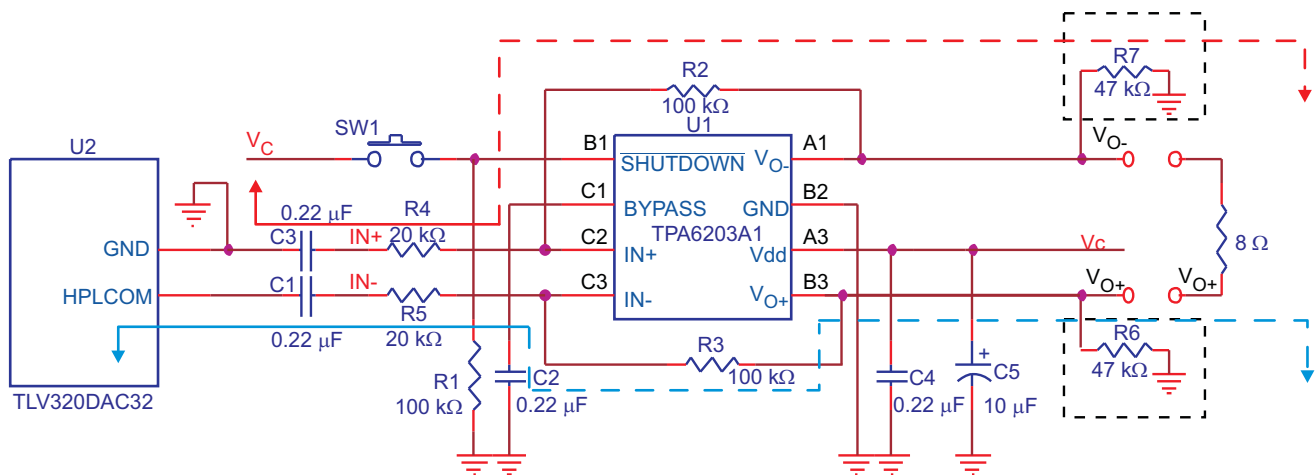

Figure 6. Additional Discharge Paths for Bias Voltage
Adding resistors R6 and R7 shown in Figure 6 provides an additional path to discharge the input capacitors. This shortens the discharge time to about 100ms and reduces the audible pop. The red dotted line is the additional discharge path for IN+ and the blue dotted line is for IN-.
- $C_{bypass} = 0.22\mu F$ (C2 in Figure 6), input capacitor = $0.22\mu F$ (C1 and C3 in Figure 6).